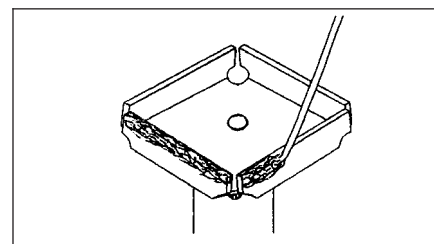

Figure 2 Tin Tip
7. Tin outside and bottom edges of tip with solder. (See Figure 2.)